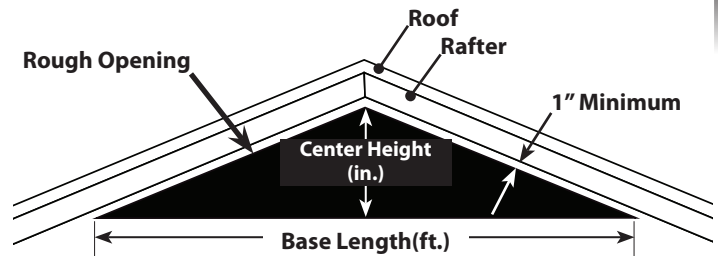

Figure 1
2. Mark the rough opening as shown in **Figure 1** on the gable end wall that the vent is to be placed. **NOTE:** The rough opening should be a minimum of 1" below the gable overhang to accommodate the nailing flange.